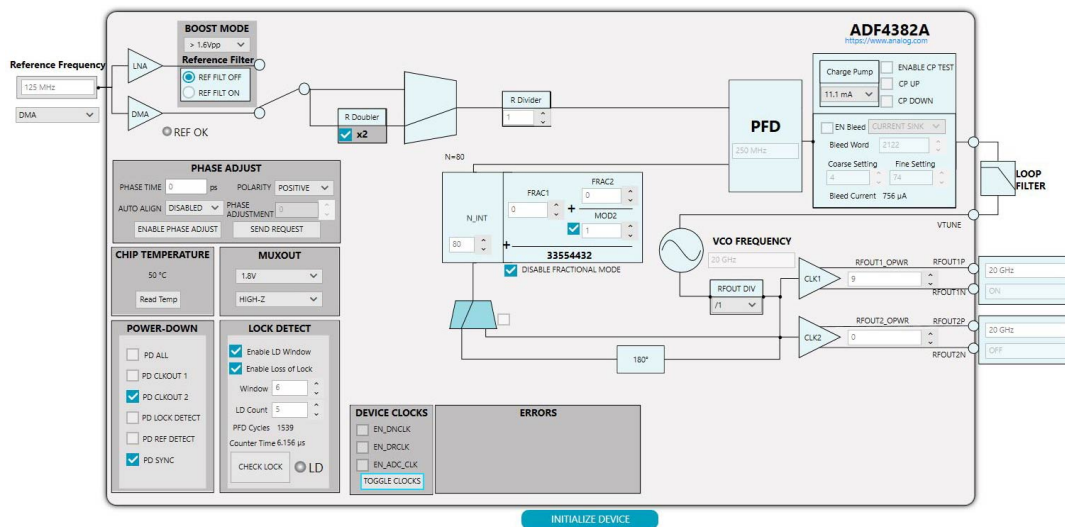

Figure 5. Front Panel
The output power of the clock output channels can be adjusted via the **ACE Software** individually using the **RFOUT1\_OPWR** and **RFOUT2\_OPWR** numeric selectors (see Figure 5).
The clock output channels can be powered down separately via the **ACE Software** or hardware using the **PD CLKOUT 1** and **PD CLKOUT 2** check boxes (see Figure 5).
- 3. Double-click the **ADF4382A** icon that appears on the board GUI to open the main control window shown in **Figure 5**
The main controls are available in the high level register map shown in Figure 5. To modify registers, perform the following steps:
2. Click **INITIALIZE DEVICE** to write to all registers and to initialize the device (see Figure 5).
If the RFOUT frequency selected is outside of the operational range, an error message appears within the **Errors** section (see Figure 5).
Specific blocks can be powered down by setting the corresponding power-down check box within the **POWER-DOWN** section shown in Figure 5.
The RFOUT phase can be controlled within the **PHASE ADJUST** section in the ACE Software (see Figure 5). To adjust the phase, perform the following steps:
Run the software and follow the steps given in Evaluation Board Software section to open the main controls shown in Figure 5.